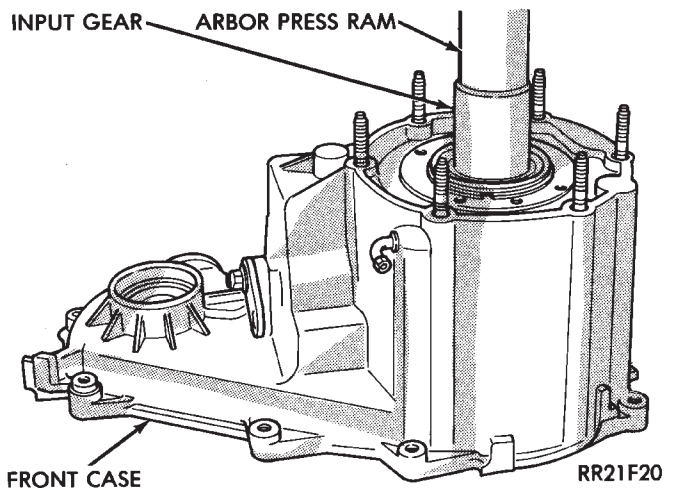

Fig. 25 Removing Input And Low Range Gear Assembly
- (37) Press input and low range gear assembly out of input gear bearing with shop press (Fig. 25).